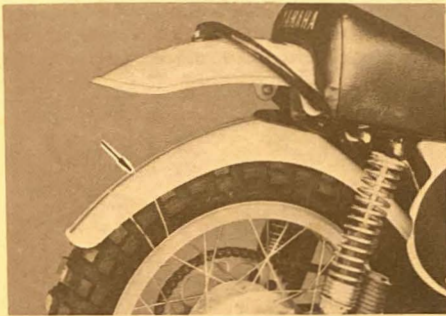

Fig. 14
- b. Take out the front fender which is placed between the rear wheel and the rear fender, and take out the front wheel. (Fig. 14.)